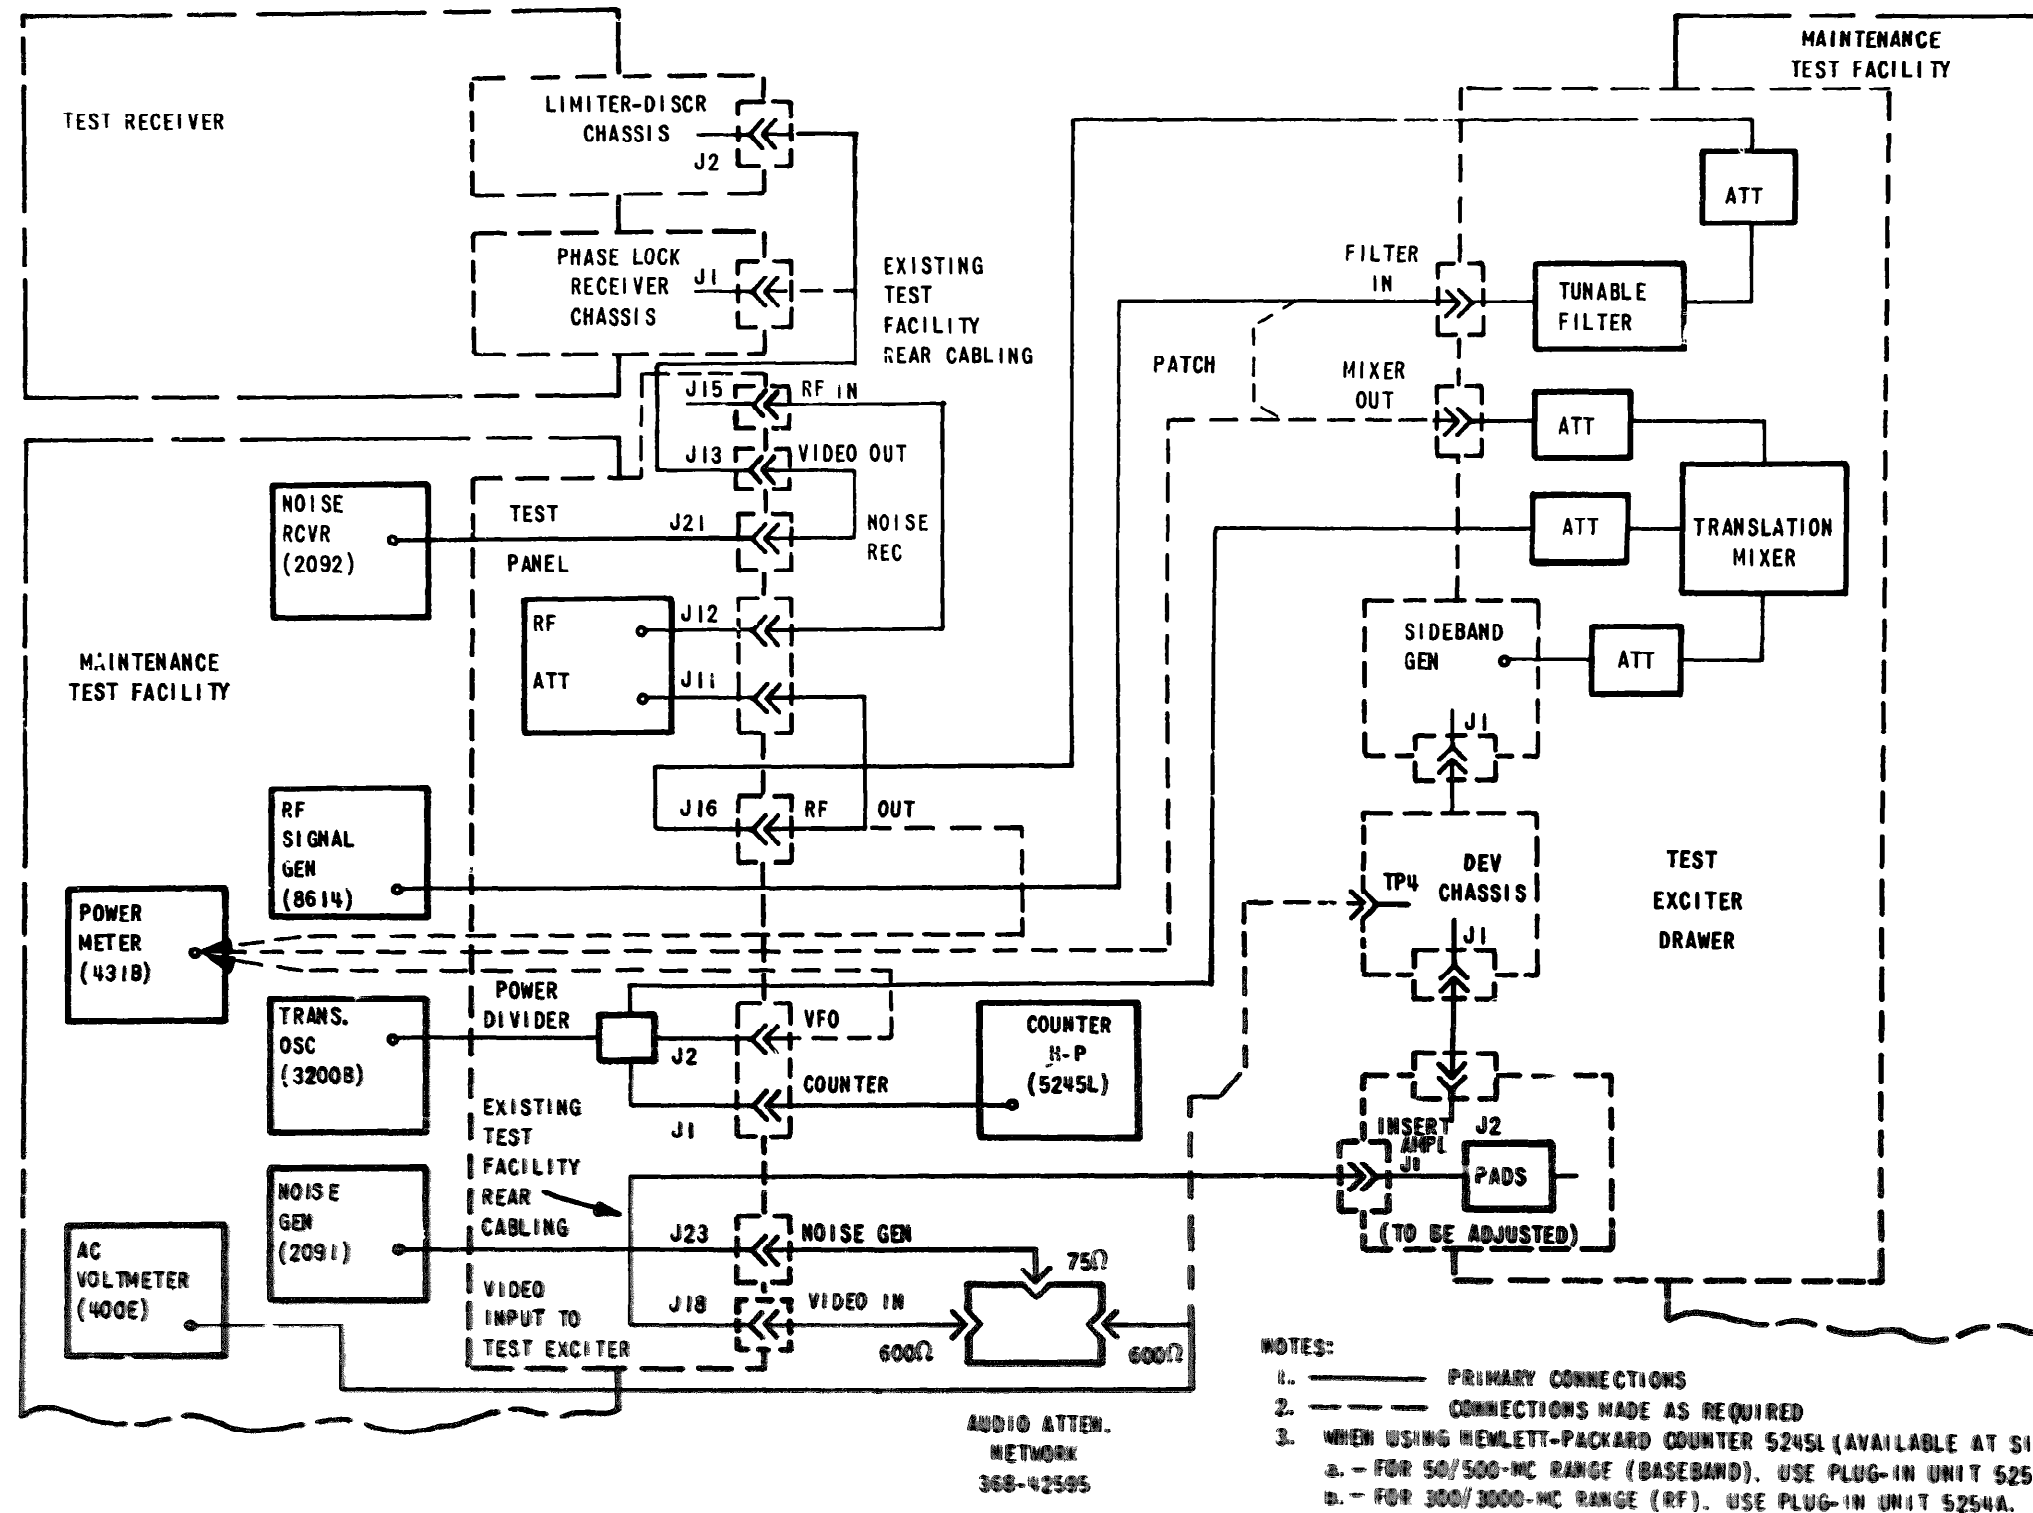

Figure 5-1. Insertion Amplifier Padding Adjustment and Tunable Filter Adjustment, Cable Connections
The portion of this procedure concerning the tunable, filter **adjustment** requires a Receiver (LRC-3 or Test Receiver drawer) having known linearity (NPR) characteristics in order to check the filter adjustment. Connect equipment cables between the Test Exciter and LRC-3 or Test Receiver drawer as shown in figure 5-1 to make the following tests.
5.4.2.4 Tunable Filter Adjustment - Use the same test equipment (including the receiver drawer with known NPR characteristics) shown in figure 5-1 to perform the following tests.